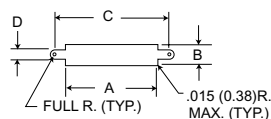
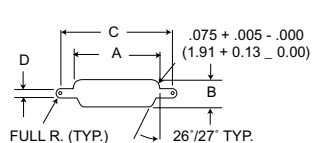

Figure 1
Figure 3
(see Figures 1 and 3)
2. Front mounting is preferred. However, when rear mounting is necessary, use figure 3 for dimensions.
5. Front mounting (Fig. 1) and rear mounting (Fig. 3) accommodate #2-56 screws when jackscrews are used. See details on page 24 when jackscrews are used.